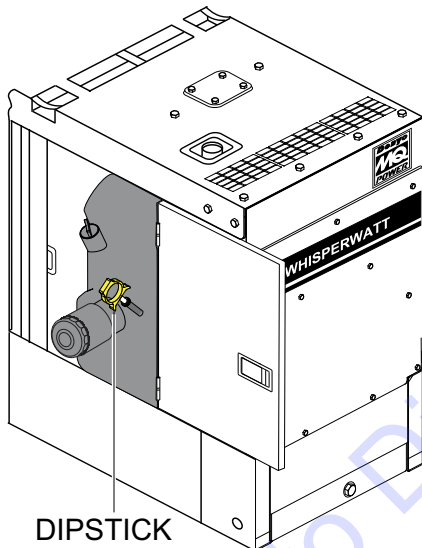

Figure 30. Engine Oil Dipstick
2. Remove the dipstick from its holder (Figure 30) and wipe it clean.